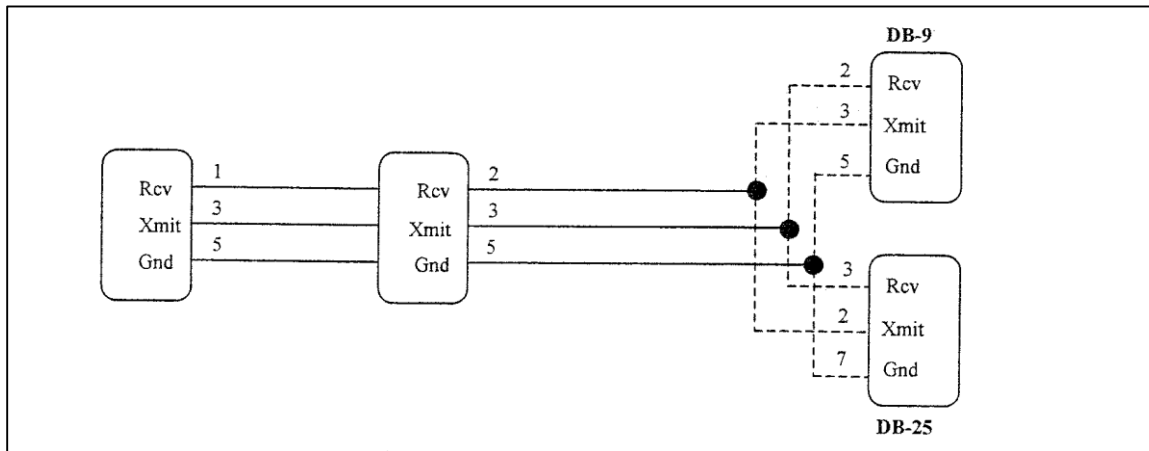

Figure 48. RS232 Wiring.
- RS232 Wiring Diagram (Figure 48)